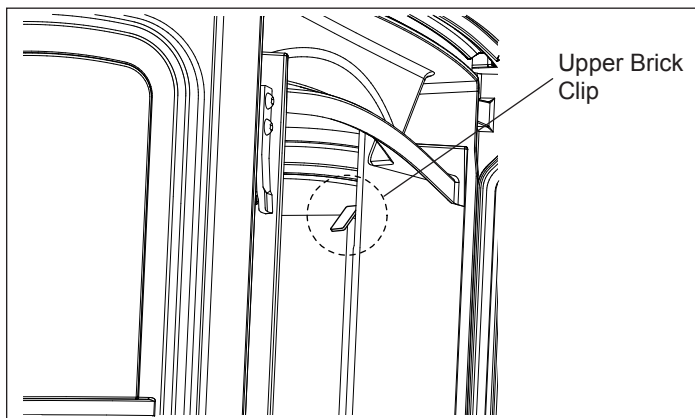

Figure 1
1. Remove (2) front upper brick clips located at each front corner of the firebox and remove side bricks. Figure 1.